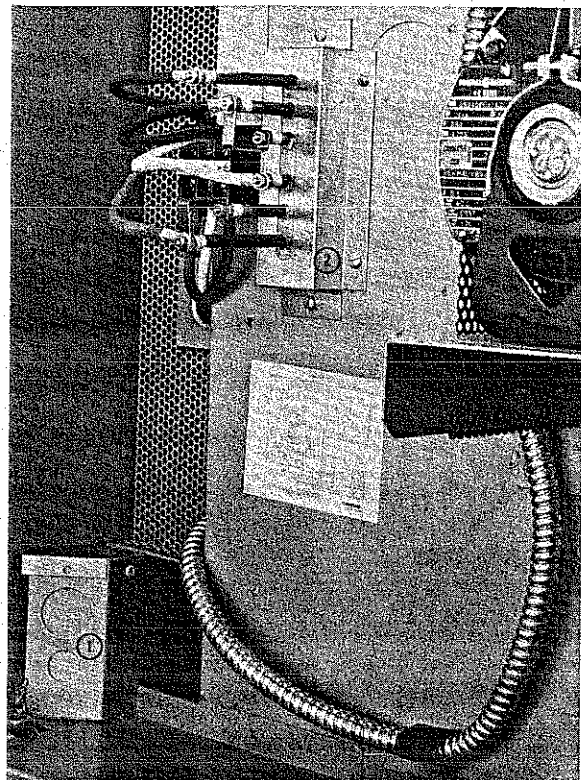
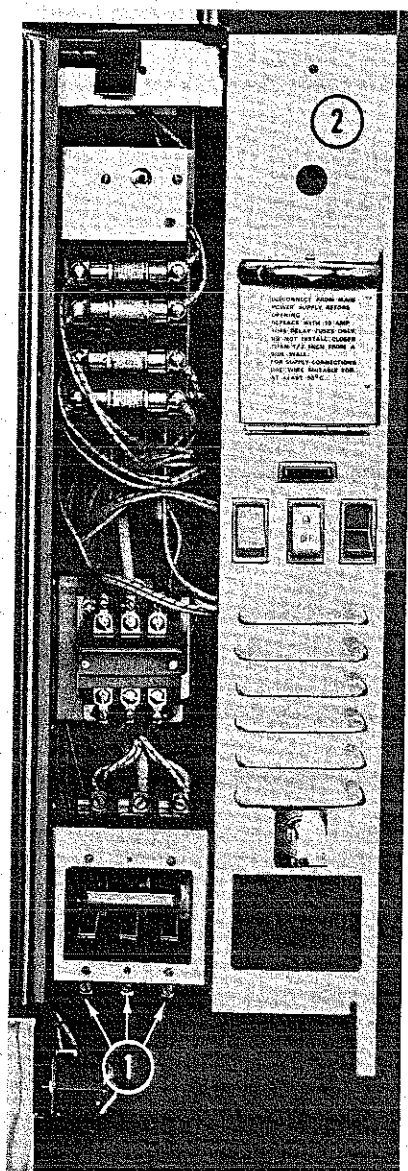

FIG. 3
FIG. 4
1. Before making any electrical connections to this unit, check the rating plate which is located on the timer panel just below the control cover to make sure that the oven is being connected to the proper electrical supply. The supply conduit is connected to the conduit connecting plate located in the right lower rear corner of the oven, (Figure 3, No. 1). The supply wires are then run through the wireway to the front of the oven and connected to the appropriate electrical unit at the lower right front corner. The supply connecting terminals for the various ovens, (Figure 4, No. 1) are reached by removing the timer panel on the right lower front corner of the oven. The electrical connections for the standard oven are made to the circuit breaker. When the circuit breaker switch is in the ON position, power is supplied to all electrical components of the unit. The electrical connections for the High Voltage oven are made to the terminals located on the bottom of the lower contactor. Electrical connections on ovens supplied to Canada are made to the terminal block located in the right lower front corner of the oven.
2. Remove control compartment cover (Figure 4, No. 2).